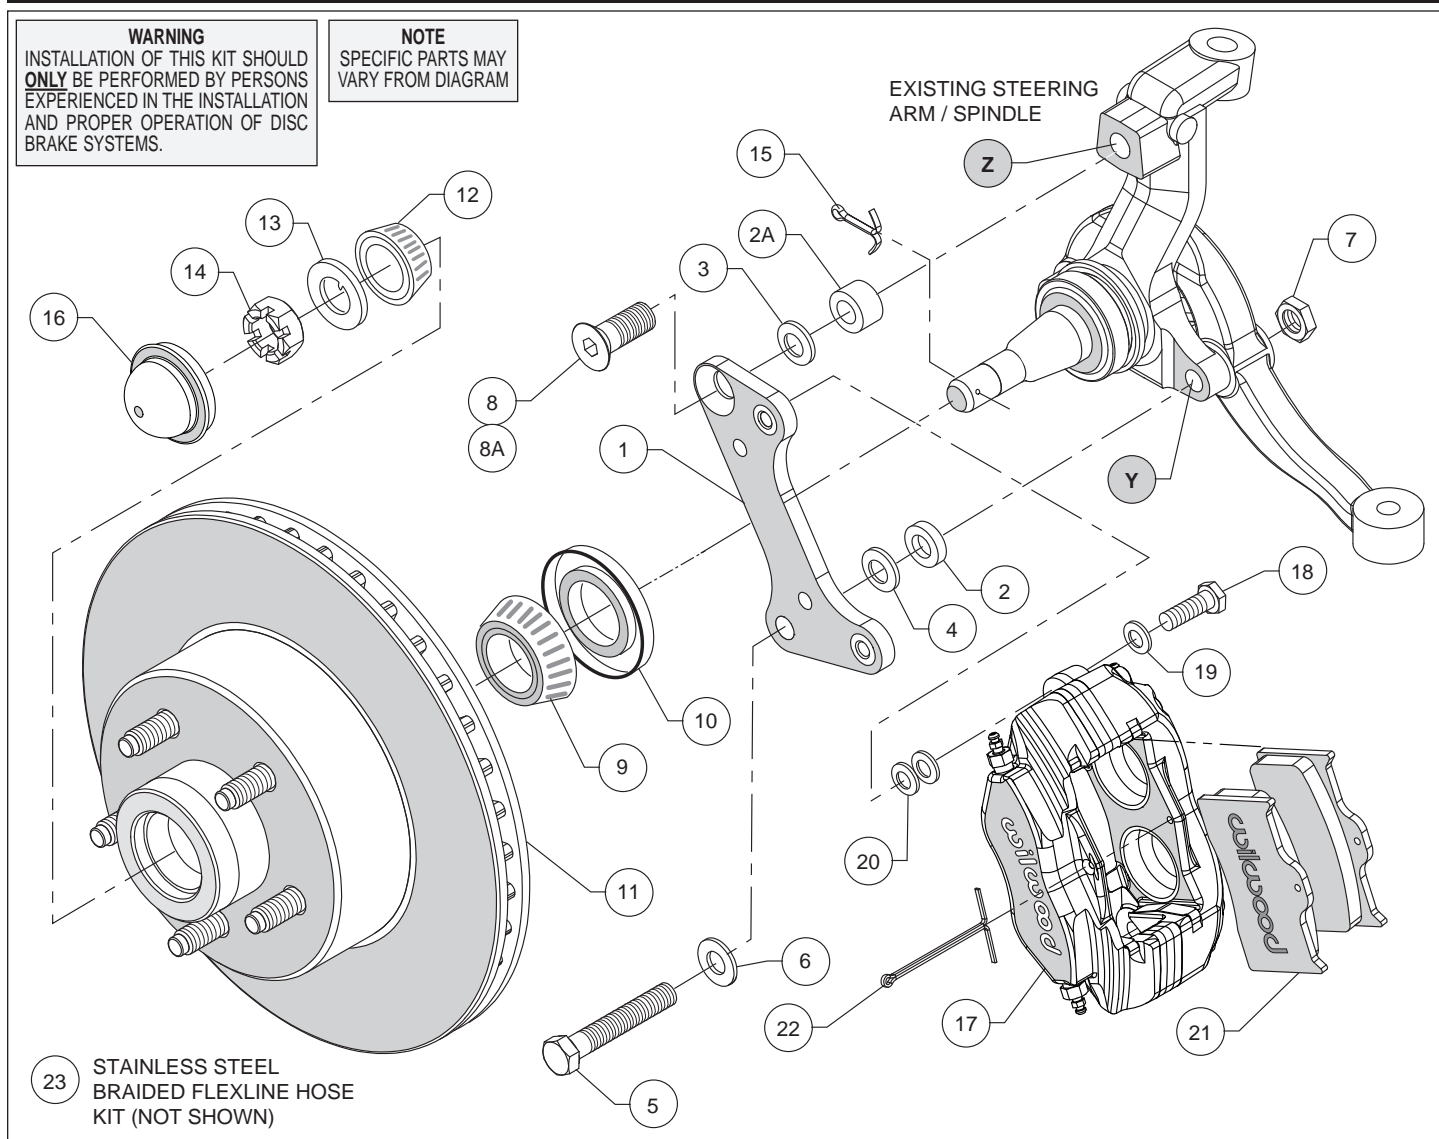
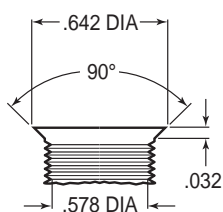
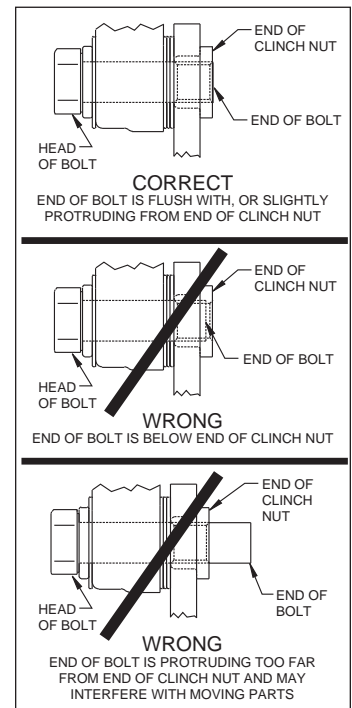

Figure 1. Typical Installation Configuration
Figure 3. Drill and Tap Detail
Figure 4. Clinch Nut Engagement Diagram
Assembly Instructions (numbers in parenthesis refer to the parts list and Figure 1 on the preceding page): **CAUTION:** All mounting bolts must fully engage clinch nuts. Be sure to check that all bolts are either flush or protruding through flanged side of clinch nut after shimming, Figure 4.
•**NOTE:** 1964-66 spindles may require the following modifications (reference Figure 1 and Figure 3): Top anchor pin hole (Z) must be drilled and tapped to the dimensions as outlined in Figure 3. Bottom rear steering arm bolt hole (Y) in the spindle and steering arm must be enlarged to .50" by drilling.
•Pack the large inner bearing cone (9) with high temperature disc brake bearing grease (available from your local auto parts store) and install into the backside of the hub (11), Photo 1.
•Install the grease seal (10) by pressing into the backside of the hub (11), flush with the end of the hub.
•Attach caliper mounting bracket (1) to spindle face using lower bolt (5), washer (6), and a .090" thick spacer (2) positioned between the bracket and the spindle face, as shown in Figure 1 and Photo 2. Secure bolt on the backside of the steering arm with nut (7). Finger tighten. Install upper bolt (8) (for drum spindle) or bolt (8A) with spacer (2A) between bracket and spindle (for disc brake spindle), Photo 3. Ensure that the flanged heads of the clinch nuts in the bracket are facing outboard, Photo 3. Temporarily tighten the mounting bolts and install the new hub/rotor (11). Check that the bracket is aligned parallel to the rotor, Photo 4. If not, adjust by adding shim washers (3 and/or 4) between spacers (2 and/or 2A) and the bracket, Figure 1. Once the bracket alignment is correct, remove the bolts one at a time, apply red *Loctite*® 271 to bolt threads, and torque upper bolt (8 or 8A) to 120 ft-lb. and lower nut (7) to 77 ft-lb.
•Final install hub/rotor. Pack the small outer bearing cone (12) with high temperature disc brake bearing grease and install into hub (11). Slide the hub/rotor onto the spindle. Secure using spindle washer (13) and nut (14), Photo 5. Adjust bearings per OEM specifications. Install new cotter pin (15).
•Press the dust cap (16) into hub (11).
•**NOTE:** Please reference the caution statement at the beginning of the assembly instructions. Mount the caliper (17) onto the caliper mounting bracket (1) using bolts (18) and washers (19), as shown in Figure 1. Initially place two .032" thick shims (20) on each bolt between the caliper and the bracket, Photo 6. Temporarily tighten the mounting bolts and view the rotor (11) through the top opening of the caliper. The rotor should be centered in the caliper, Photo 7. If not, adjust by adding or subtracting shims between the bracket and the caliper. Always use the same amount of shims on each of the two mounting bolts. **NOTE:** The end of each bolt must be flush with or slightly protruding from the head of the clinch nut, as shown in Figure 4.
If necessary place spare shims between washer (19) and caliper mounting ear to achieve the proper clinch nut engagement, as shown in Figure 4. Once the caliper alignment and clinch nut engagement are correct, remove the bolts one at a time, apply red *Loctite*® 271 to bolt threads, and torque to 40 ft-lb.
- Install the disc brake pads (21) into the caliper, with the friction material facing the rotor (11), Photo 8. Secure in place using cotter pin (22), Photo 9.